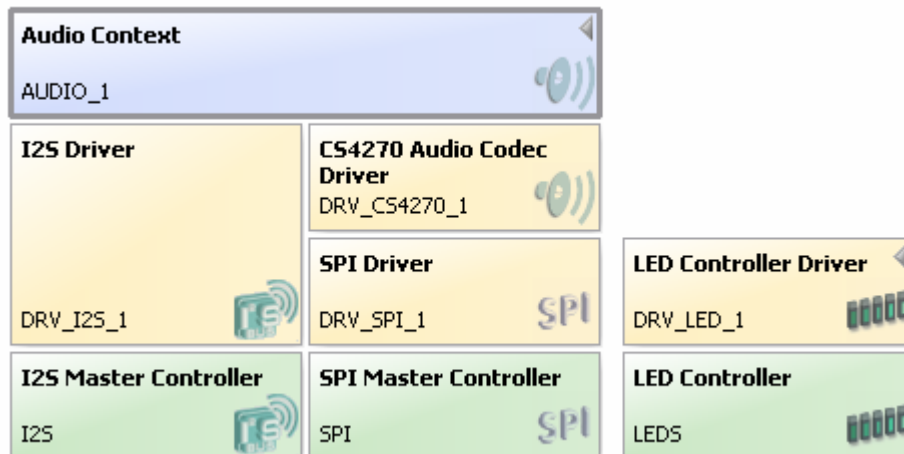

Figure 20. Then Link the Context to the I2S, so that Altium Designer knows both of these stacks are used with the 4270 Audio Codec.
- This Audio Context must now be linked to the I2S driver, to do this click the **Link to Existing Stack** button. All stack elements will grey out, except the I2S Driver, select it to create the link, as shown in Figure 20.